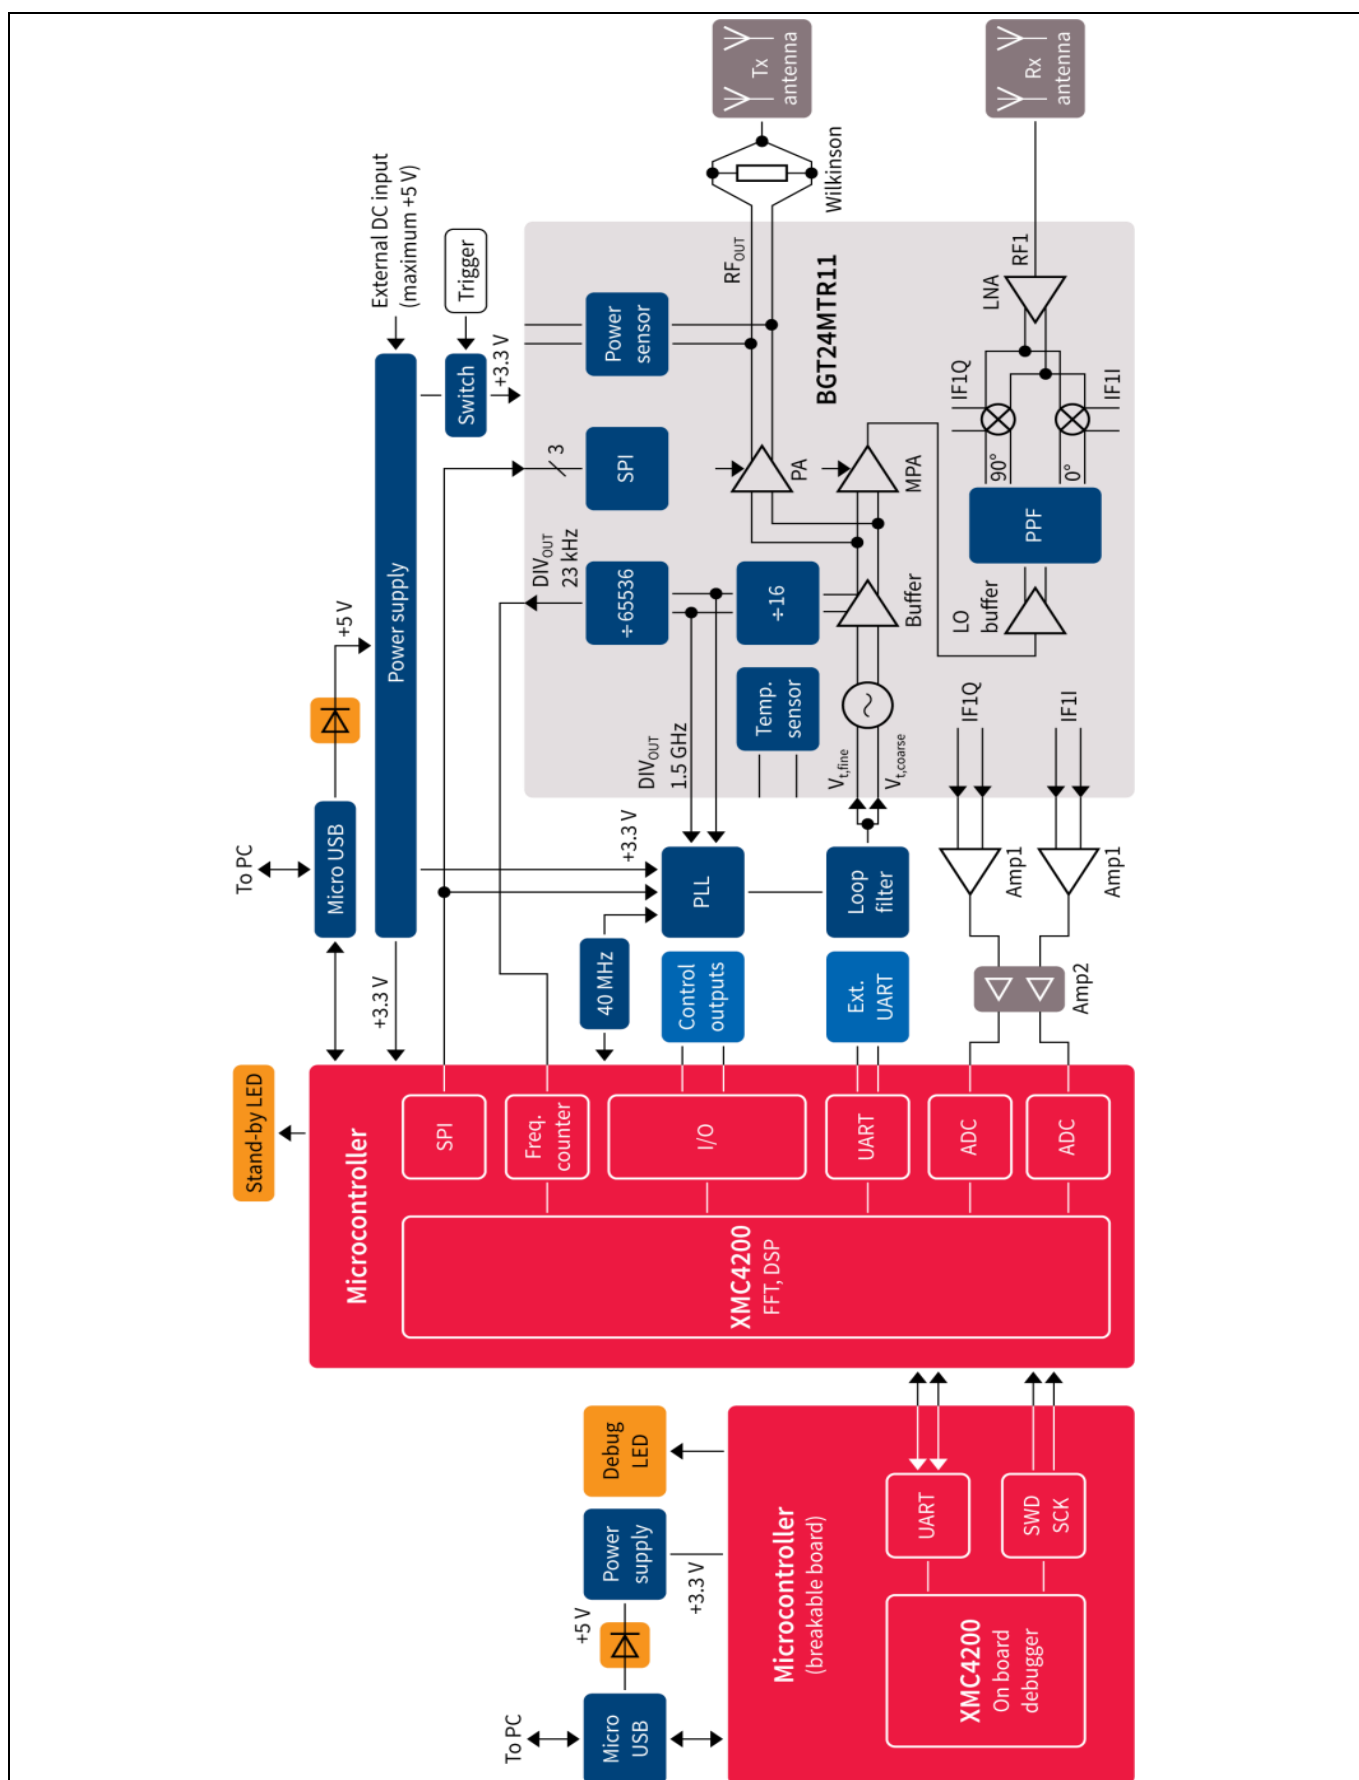

Figure 5 Block diagram – Distance2Go demo board
Figure 5 shows the block diagram of the demo board. The board is split into a RF unit and a breakable debugger unit for programming. The RF unit consists of the highly integrated 24 GHz transceiver IC BGT24MTR11 with 1 TX and 1 RX. The MMIC features an integrated Voltage Controlled Oscillator (VCO), Power Amplifier (PA), integrated temperature and power sensors, prescalers and IQ receivers.